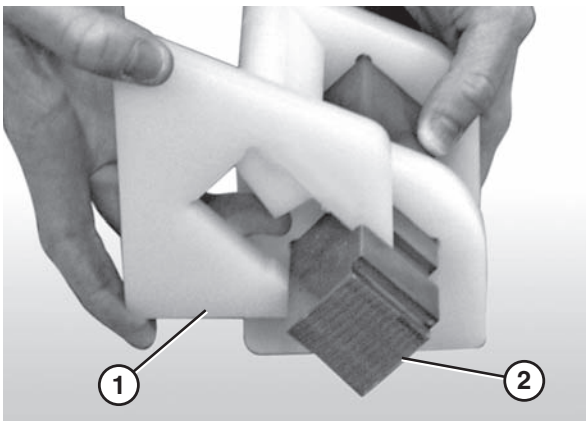

Figure 77
3. Attach the nose bar tracking pucks (Figure 77, item 1) to the nose bar drive post (Figure 77, item 2).